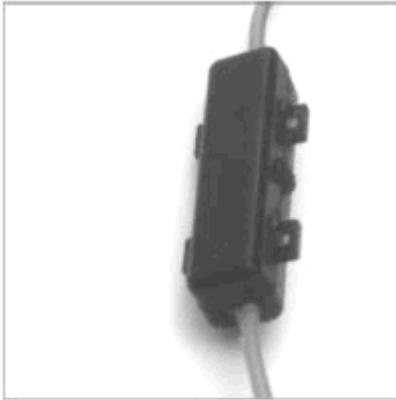

Figure 2.18 A Completed Splice
11. Close the splice enclosure, pressing it firmly until the teeth lock together (Figure 2.18).